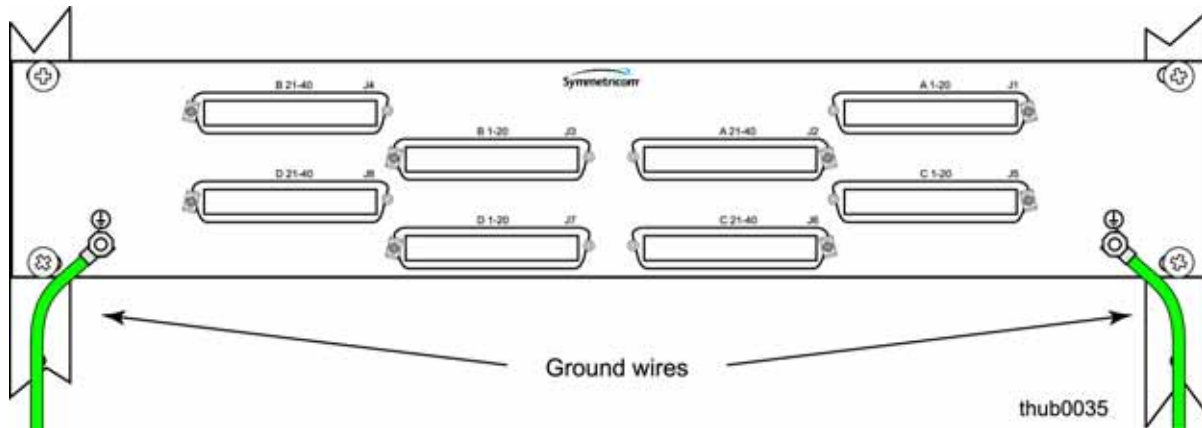

Figure 3-8. Wire-wrap Panel Ground Connection
2. Crimp the supplied spade lug to one end of the 16 AWG wire and connect it to the ground terminals on the front panel of the wire-wrap panel (Figure 3-8).